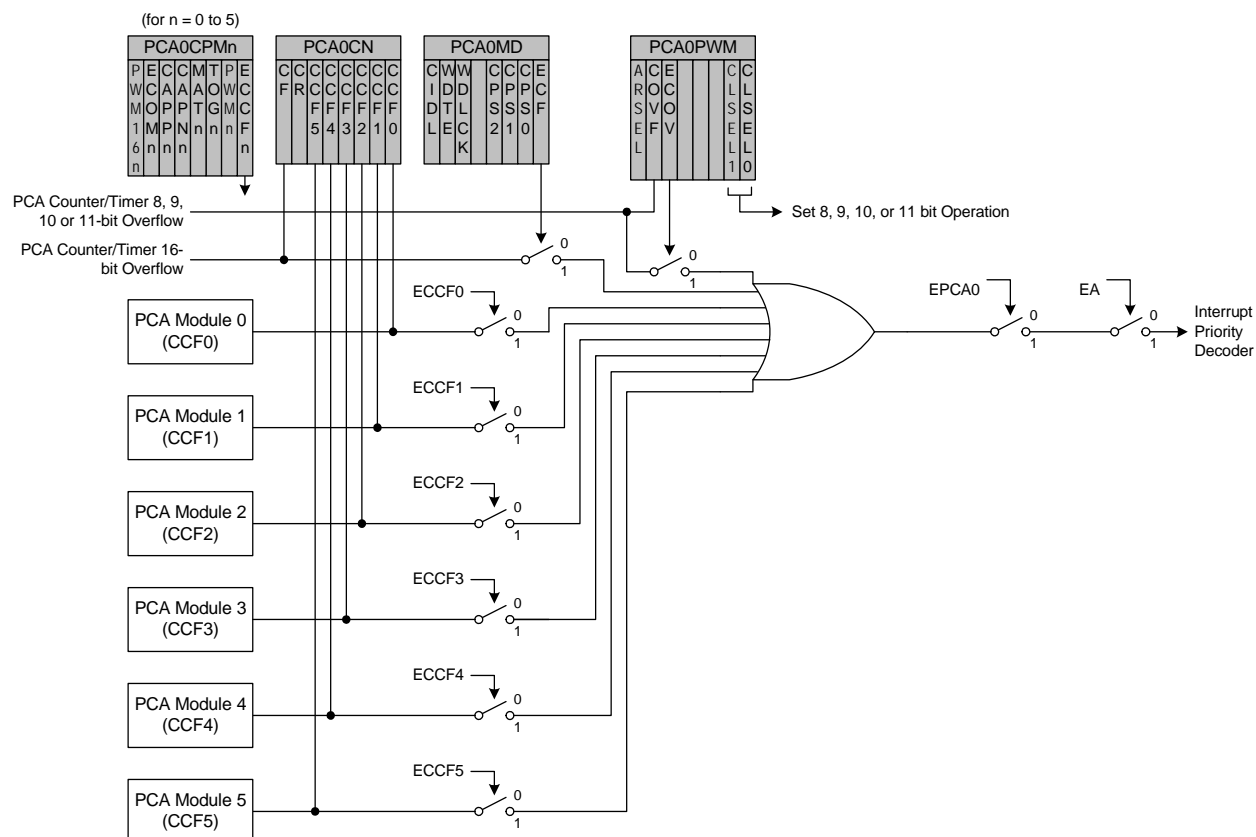

Figure 27.3. PCA Interrupt Block Diagram
Figure 27.3 shows a diagram of the PCA interrupt tree. There are eight independent event flags that can be used to generate a PCA0 interrupt. They are: the main PCA counter overflow flag (CF), which is set upon a 16-bit overflow of the PCA0 counter, an intermediate overflow flag (COVF), which can be set on an overflow from the 8th, 9th, 10th, or 11th bit of the PCA0 counter, and the individual flags for each PCA channel (CCF0, CCF1, CCF2, CCF3, CCF4, and CCF5), which are set according to the operation mode of that module. These event flags are always set when the trigger condition occurs. Each of these flags can be individually selected to generate a PCA0 interrupt, using the corresponding interrupt enable flag (ECF for CF, ECOV for COVF, and ECCFn for each CCFn). PCA0 interrupts must be globally enabled before any individual interrupt sources are recognized by the processor. PCA0 interrupts are globally enabled by setting the EA bit and the EPCA0 bit to logic 1.